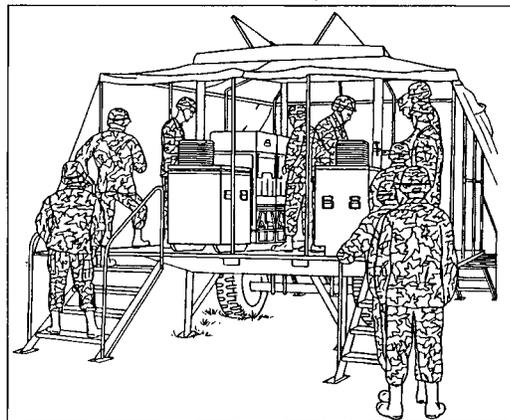

Figure 3-18. Trailer-mounted field kitchen with two serving lines
- (3) Set up serving lines so that diners can pass on both sides of the server.
- (4) When using the MKT while under the threat of attack, set up two serving lines, one on each side of the trailer. See Figure 3-18.
- (5) Enter the trailer from either end. (All soldiers should move through the serving line in the same direction.)